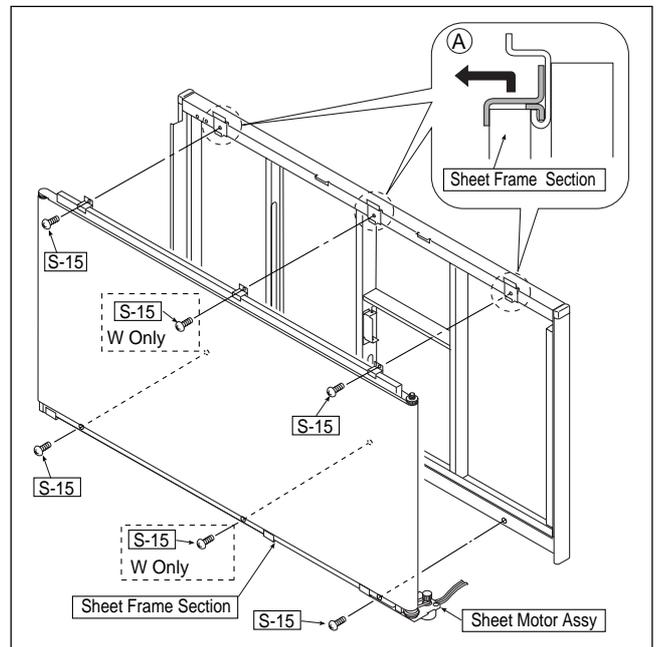

Fig. 18
16) Remove the Sheet Frame Section. (See Figure 18.)
2. Remove the "S-15" screws (S : four screws, W : six screws) as shown in Figure 18. (Tightening torque :  $12 \pm 2.0 \text{kgfcm}$ )
3. Slide the Sheet Frame Section in the direction indicated by the arrow as shown in the enlarged picture in portion A in Figure 18 and remove it.